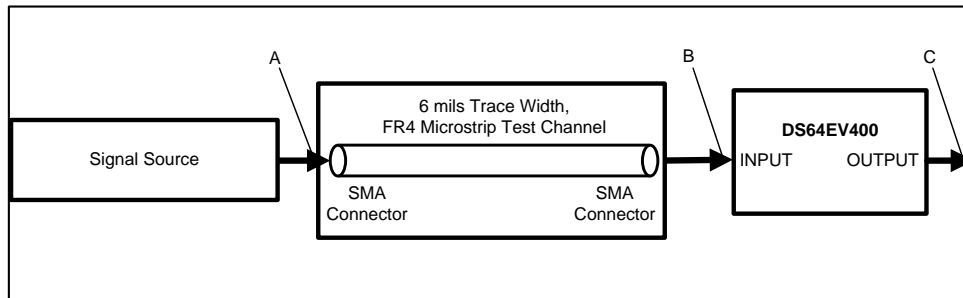

Figure 2. Test Setup Diagram
(6) Deterministic jitter is measured at the differential outputs (point C of Figure 2), minus the deterministic jitter before the test channel (point A of Figure 2). Random jitter is removed through the use of averaging or similar means.
(7) Specification is ensured by characterization at optimal boost setting and is not tested in production.
(8) Measured with clock-like {11111 00000} pattern.
(9) Random jitter contributed by the equalizer is defined as  $\sqrt{J_{OUT}^2 - J_{IN}^2}$ . JOUT is the random jitter at equalizer outputs in ps-rms, see point C of Figure 2; JIN is the random jitter at the input of the equalizer in ps-rms, see point B of Figure 2.